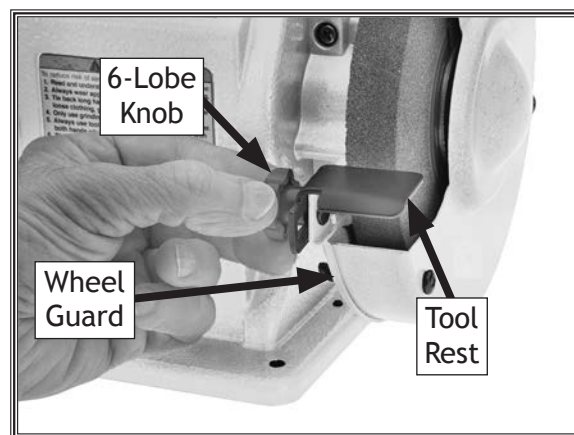

Figure 11. Attaching right tool rest to wheel guard.
4. Attach each tool rest to bottom of wheel guard using (1) M6-1 x 12 carriage bolt, (1) 6mm flat washer, and (1) M6-1 6-lobe knob, as shown in **Figure 11**.